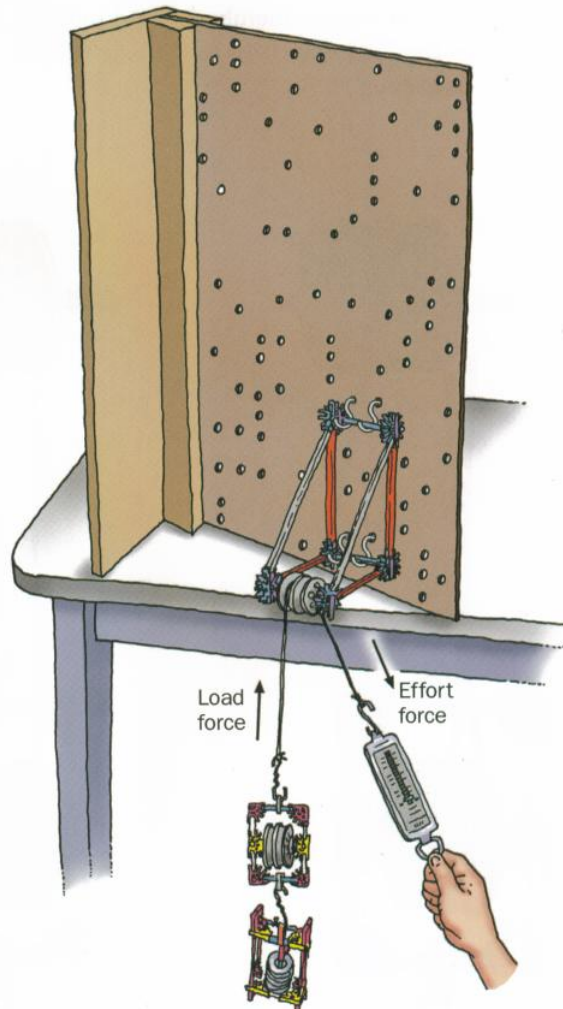

Figure 12.4 Raising the movable-pulley-and-sled combination using a single fixed pulley
4. Set up a single fixed pulley with the fixed pulley assembly attached to the pegboard, as shown in Figure 12.4. Use enough string so the movable-pulley-and-sled combination rests on the floor when the string is over the pulley.
**5.** Raise the movable-pulley-and-sled combination at a steady speed to a height of 0.10 m (10 cm) above the floor (see Figure 12.4). Work as a team to measure and record the following on your student sheet: